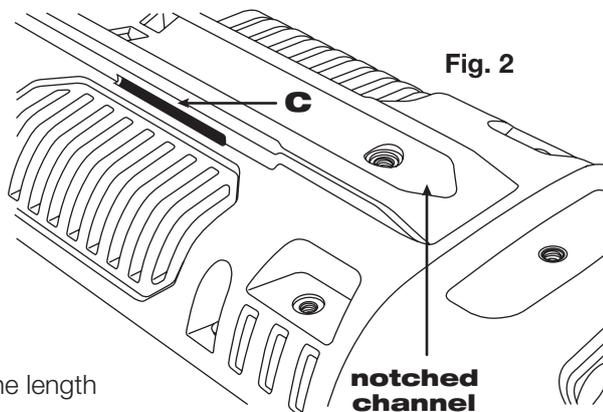

Fig. 2
2. Use the fastening points "C" located in **Fig. 2** to secure the back of the unit to the surface
3. Note: there is a notched channel running down the length of the rear case to allow the unit to be attached to a tubular section such as scaffold **Fig. 2**